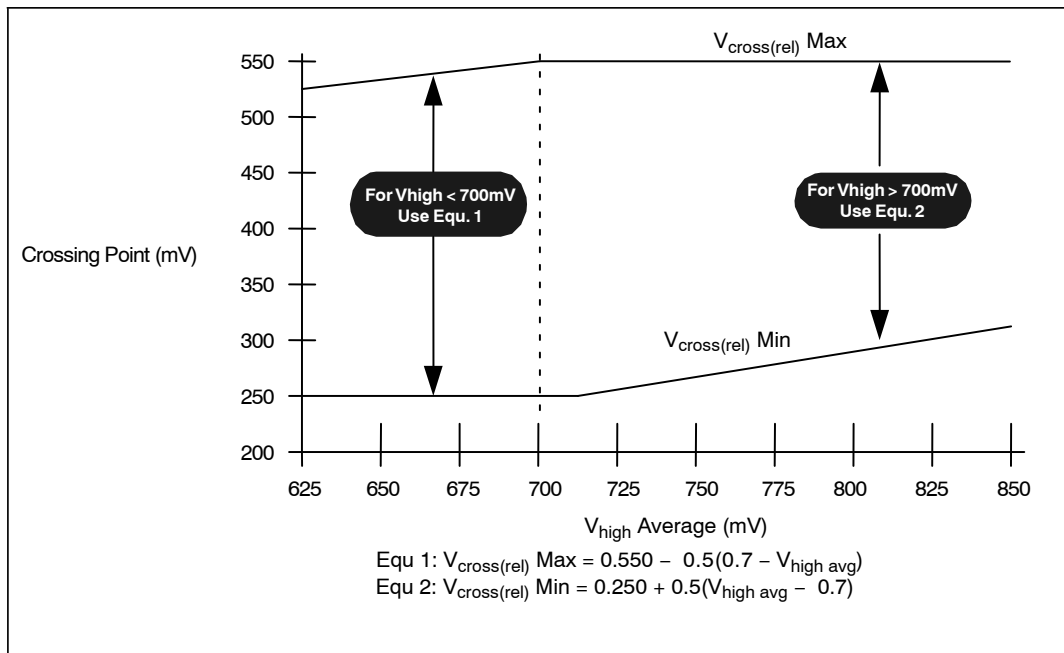

Figure 16. V_{cross} Range Clarification (Note 36)
16. Vcross(rel) Min and Max are derived using the following, Vcross(rel) Min = $0.250 + 0.5 (V_{\text{high avg}} - 0.700)$. Vcross(rel) Max = $0.550 - 0.5 (0.700 - V_{\text{high avg}})$. (see Figure 16 for further clarification).